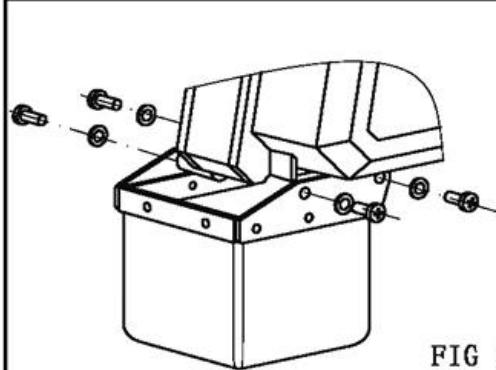
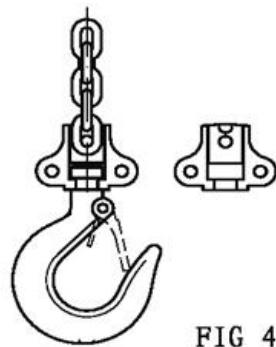

FIG 3
FIG 4
Load Chain Removal/Installation(FIG3& FIG4 &FIG5).
1. Remove the chain bag(FIG 3)
2. Remove the hook lock(FIG 4). Depress “up” button and run chain out of the hoist.